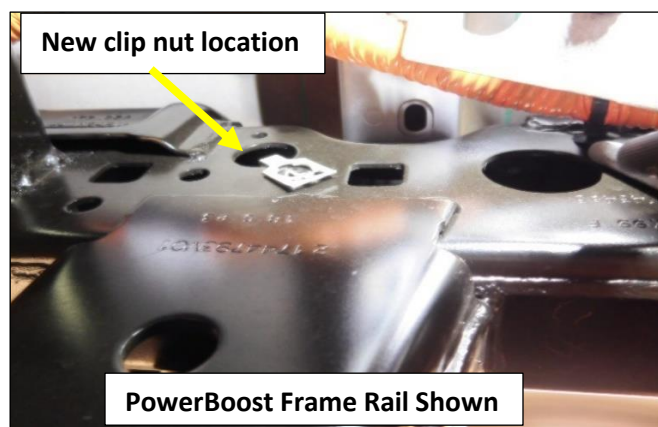
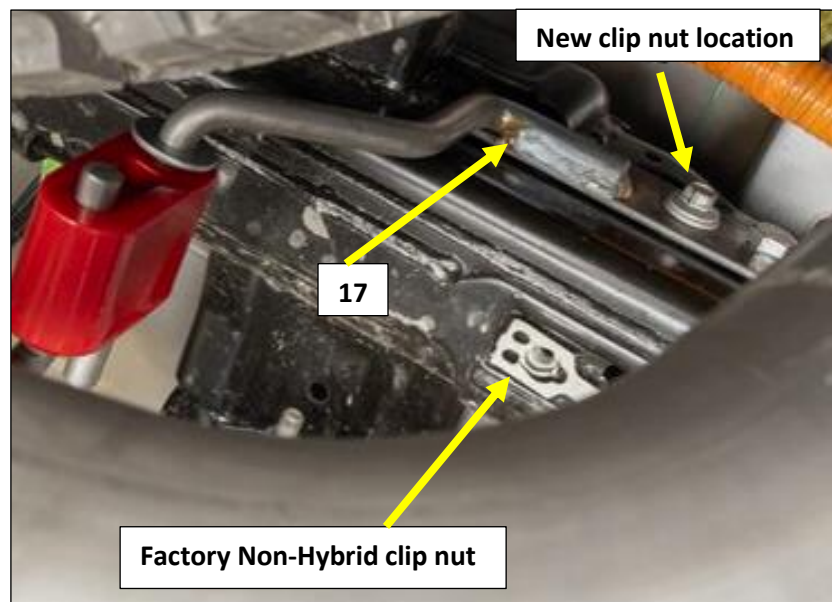

Figure 11
Figure 12
The FACTORY left side tailpipe frame hanger assembly will not be used for Non-Hybrid or PowerBoost models. The Flowmaster frame hanger 535HA (17) will be installed in its place. It will be necessary to relocate the factory clip nut to a different location in the frame rail, if it is not already there. Standard F150 frame hanger assemblies use the correct location. PowerBoost vehicles will need the clip nut relocated as shown in Figures 11 & 12.
2. Remove one of the existing frame hanger clip nuts and re-install it into the frame rail at the location in **Fig. 11**. **NOTE:** Standard F150 models may already be in the correct location, PowerBoost clip nuts will move from the bottom of the frame rail to directly above and to the inside of the frame rail as shown. See **Fig.12** as reference.
3. Install the 535HA (17) frame hanger on to the inside left frame rail using the OEM Mounting bolt. **Fig. 12**